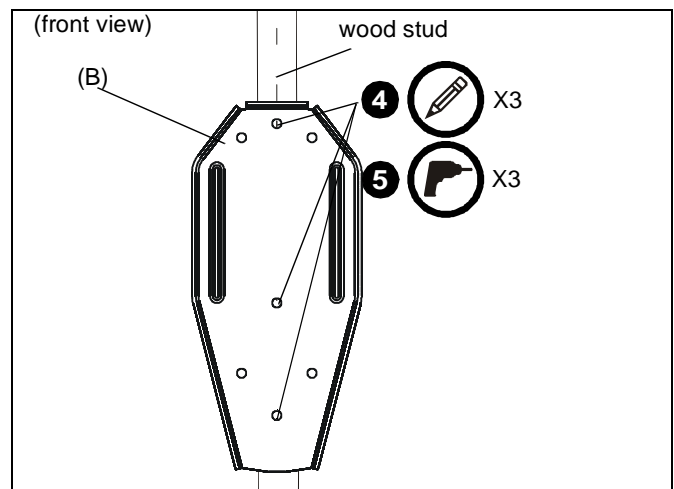

Figure 3
3. Line up inner three holes on mounting bracket (B) with center of stud at desired mounting location. (See Figure 3)
4. Using mounting bracket (B) as a template, mark three holes at the inner three holes in bracket. (See Figure 3)
5. Drill three 7/32" holes at marked locations in wall. (See Figure 3)